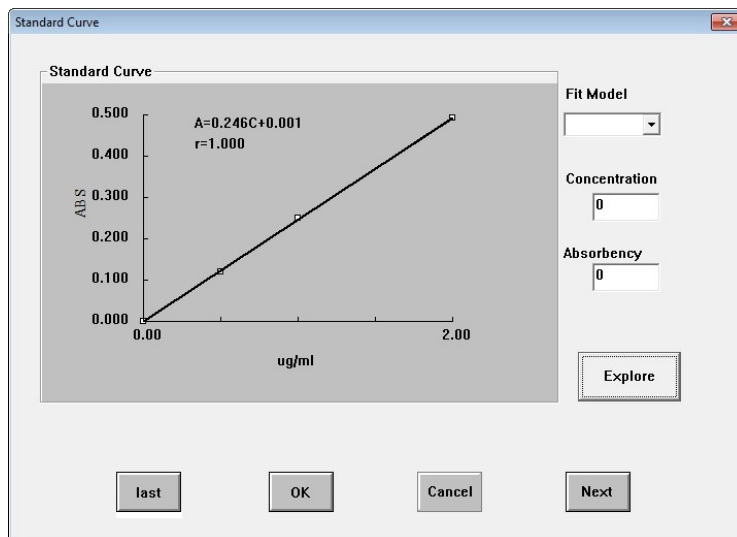

Fig. 3-10
- e) Click “Next” to switch to the standard curve interface. Then, click “OK” and a standard curve will be shown (Fig. 3-10).